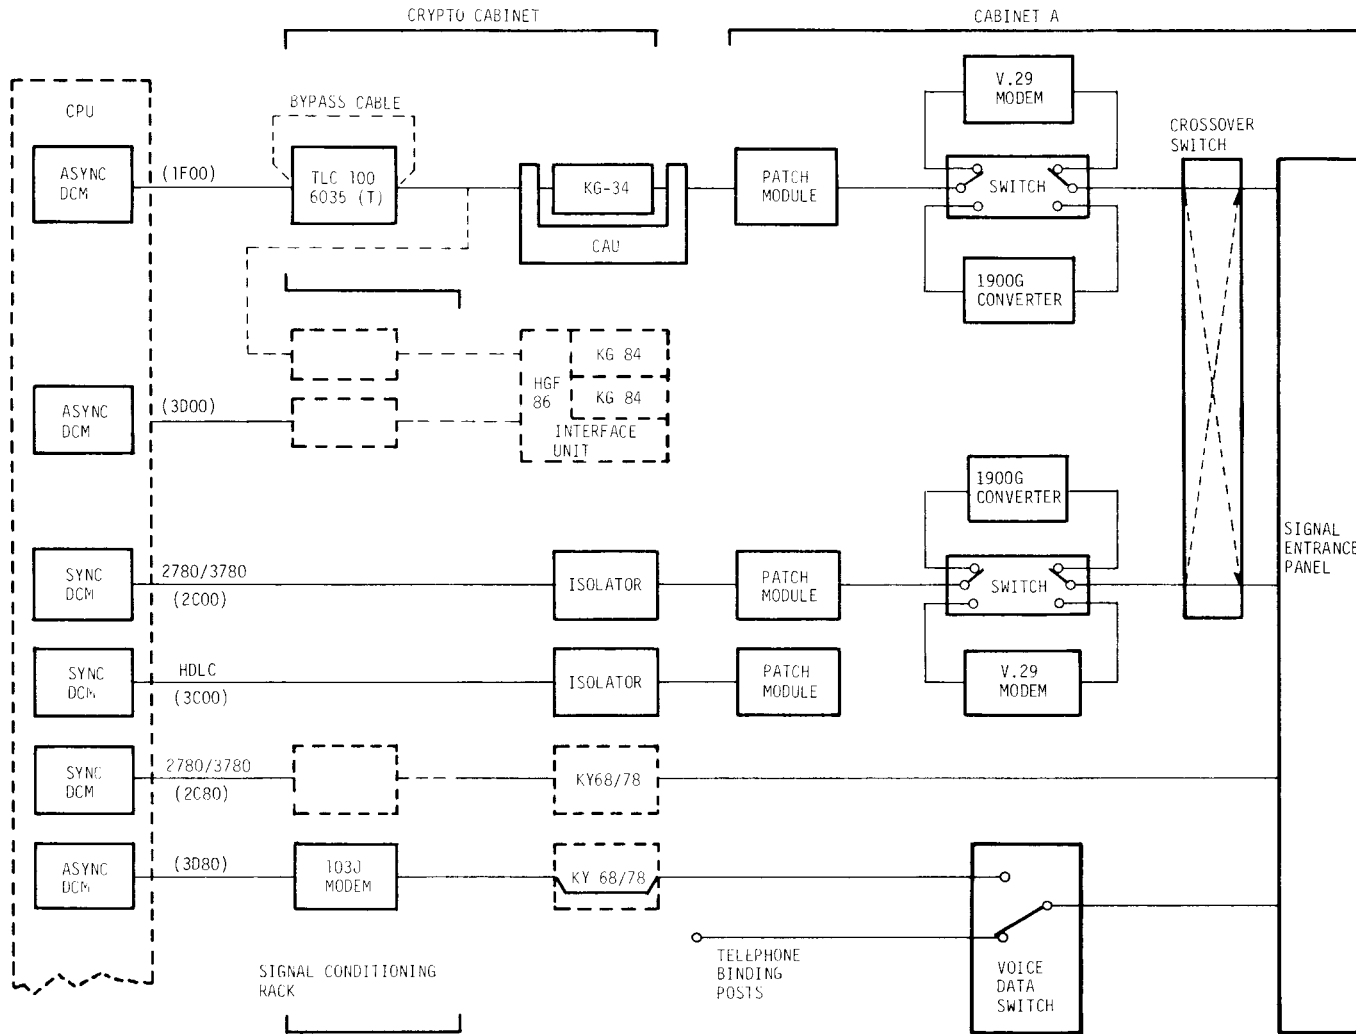

Figure 2-18. Cabinet A and Crypto Cabinet Diagram
(2) Each signal line protector (SLIP) protects either sixteen or eight lines. The protection is against lightning and other high energy discharges. A spark gap absorbs and drains off the excess energy so that the communications circuits will not see voltages higher than they can handle.
(3) The filter on each line removes unwanted signals (noise) from the transmission. Bandpass filters are used.
b. Cabinet A Signal Processing Equipment. Cabinet A (fig. 2-18) provides the switching networks, patch panels and modems needed to support the dedicated synchronous HDLC or 3780/2780 bulk transfer and asynchronous AUTODIN circuits. These circuits connect with the DCMS on the CPU through the equipment provided in the crypto cabinet.